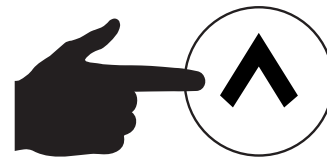

Figure 62. Page Up Button
- On the touch display, press the **Page Up button** (Figure 62) to scroll to **screen 4 of 7**.